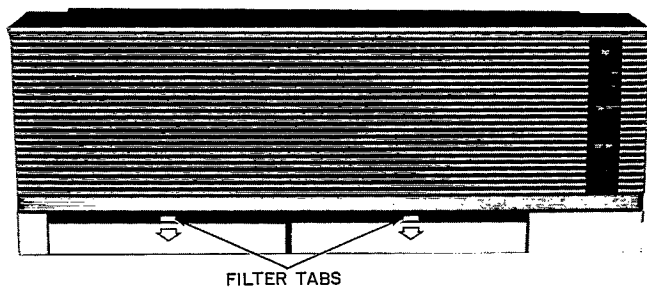

Fig. 4 — Location of Filter Tabs
2. Grasp the filter tabs (see Fig. 4) and carefully pull the filter straight down and out of the indoor unit.
Grasp the filter tabs (see Fig. 4) and carefully pull the filters horizontally out of the indoor unit.